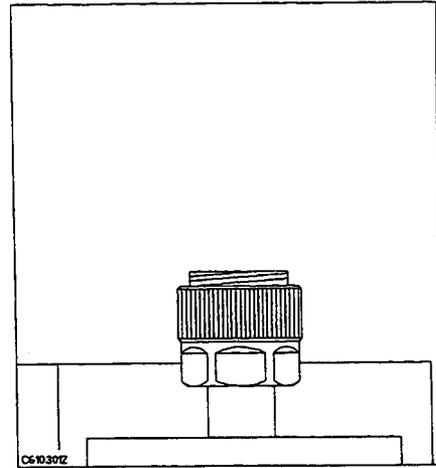

Figure 3-5.
4. Verify that the connector sleeve is extended fully as shown in Figure 3-5.